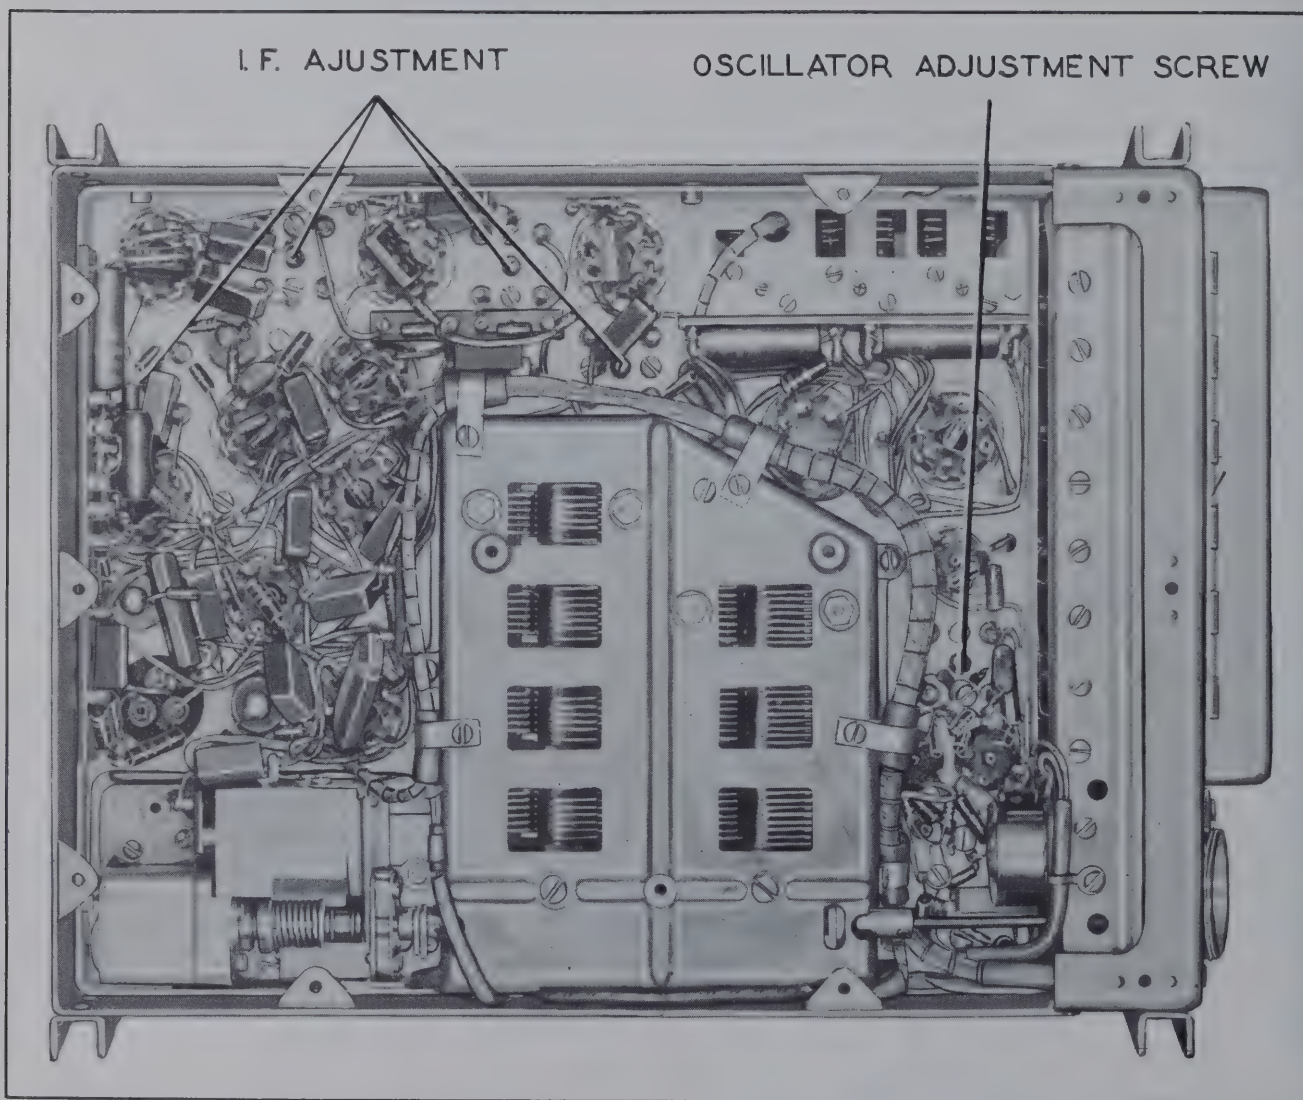
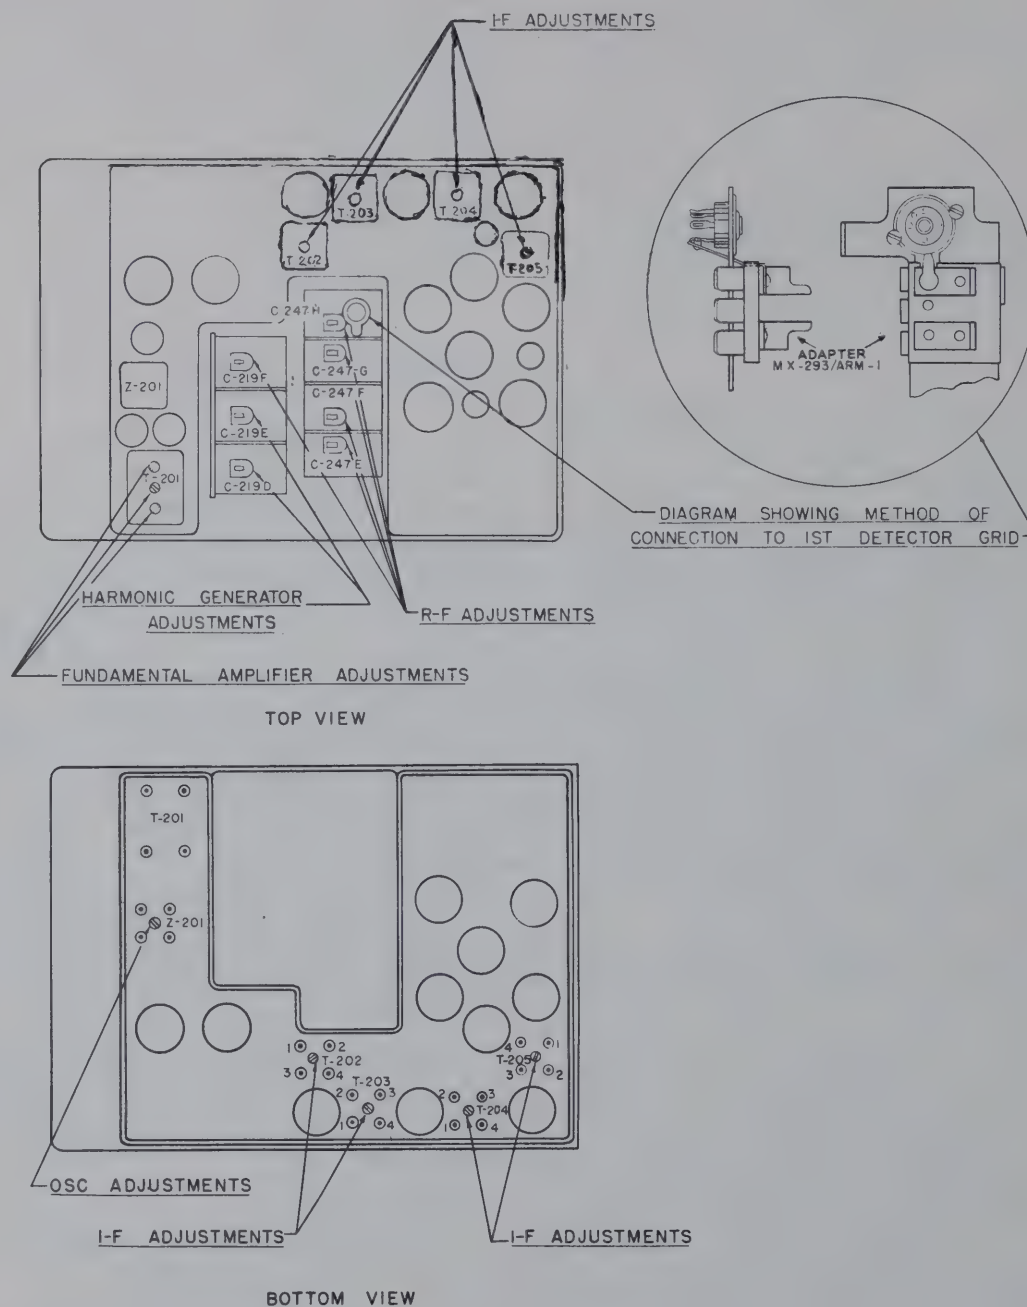

Figure 2-7. Radio Receiver R-77/ARC-3 — Bottom View Showing Points of Adjustment
Figure 2-8. Radio Receiver R-77/ARC-3 — Alignment Diagram
(4) Adjust the screw at the bottom of i-f transformer T-205 for the *maximum* reading on the output meter. (See figs. 2-7 and 2-8.) Continue to reduce the input from the signal generator to the smallest value which will give a workable reading on the output meter. Because of the AVC action, alignment cannot be performed with high input.
(5) Connect Shunting Unit MX-294/ARM-1 across terminals 1 and 2 (toward the front of the chassis) on the third i-f transformer T-204. (See fig. 2-8.)
(6) Adjust the screw on top of the transformer for the *maximum* reading on the output meter.
(7) Remove the shunting unit from terminals 1 and 2; then connect it across terminals 3 and 4 (toward the rear of the chassis) on the third i-f transformer T-204. (See fig. 2-8.)
(8) Adjust the screw on the bottom of the transformer for *maximum* reading on the output meter.
(9) Repeat the procedure outlined in subparagraphs 7b (5), (6), (7) and (8); above, for T-203, the second i-f transformer.
(10) Remove the shunting unit from transformer T-203 and connect it across terminals 1 and 2 (toward the inside of the chassis) on the first i-f transformer T-202. (See fig. 2-8.)
(11) Adjust the screw on top of the transformer for the *maximum* reading on the output meter.
(12) Remove the shunting unit from terminals 1 and 2; then connect it across terminals 3 and 4 (toward the outside of the chassis) on the first i-f transformer T-202. (See fig. 2-8.) Adjust the screw on the bottom of the transformer for the *maximum* reading on the output meter
(13) Remove the shunting unit and adapter from the i-f transformer and variable capacitor respectively.
(1) Turn the adjusting screw on the bottom of the oscillator coil Z-201 as far counterclockwise as possible. (See figs. 2-7 and 2-8.)
(2) Open the crystal compartment door of Radio Receiver R-77/ARC-3 and remove all crystals from the crystal compartment. Insert the Crystal Unit CR-1A/AR, marked "8727.000 kc," in channel "A" and depress the channel "A" push button.
(3) Turn the selector switch on Test Unit TS-178/ARM-1 to the "OSC" position. Then, turn the oscillator coil adjusting screw clockwise until the meter on the test unit reads 50. (See fig. 2-8.)